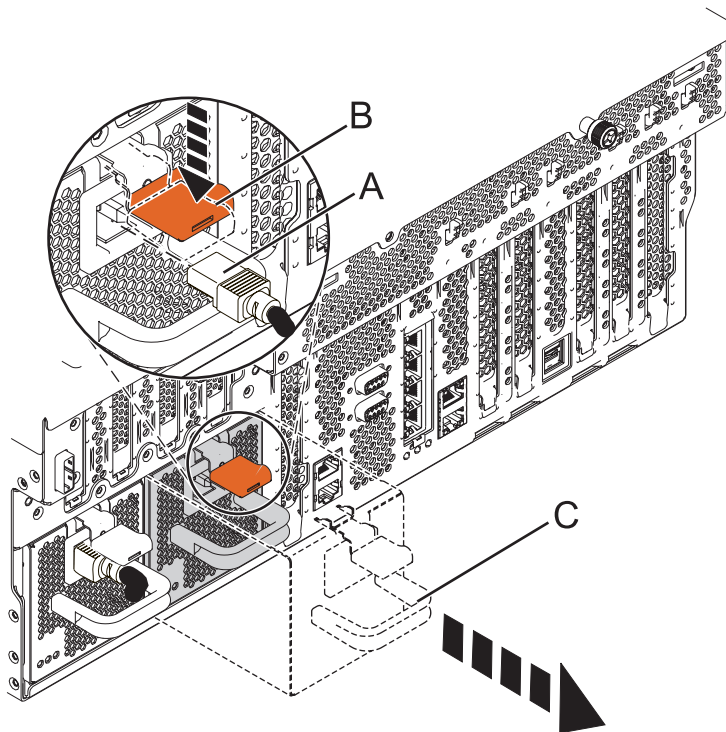

Figure 4. Removing the power supply
5. Disconnect the power cable (A) from the front of the power supply as shown in Figure 4.
6. Press down on the locking latch (B) as shown in Figure 4.